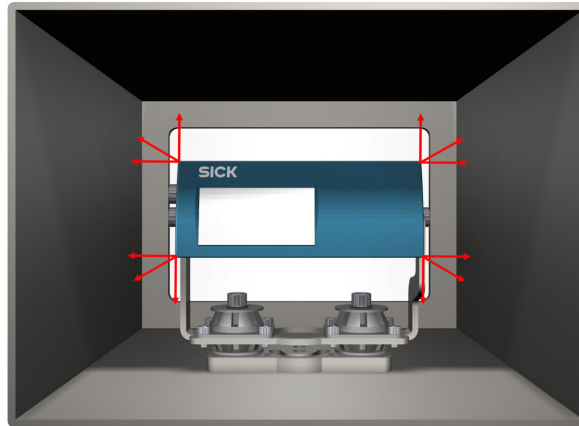

Figure 24: Mounting with mounting bracket – Taking into account the duty stroke
- ▶ Take into account the minimum 25 mm duty stroke in all axis directions of the device (see figure 24, page 36). This applies in particular to the installation.